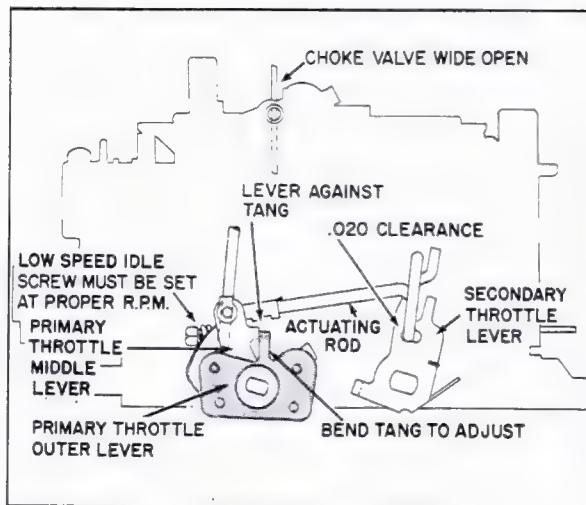

Fig. 6-90 Secondary Throttle Adjustment
## 93. Secondary Throttle Closing Adjustment (On Car) (Fig. 6-90)
2. There should be .020 clearance between actuating rod and front of slot in secondary throttle lever as shown in Fig. 6-90, when primary throttle middle lever is against tang of primary throttle outer lever.